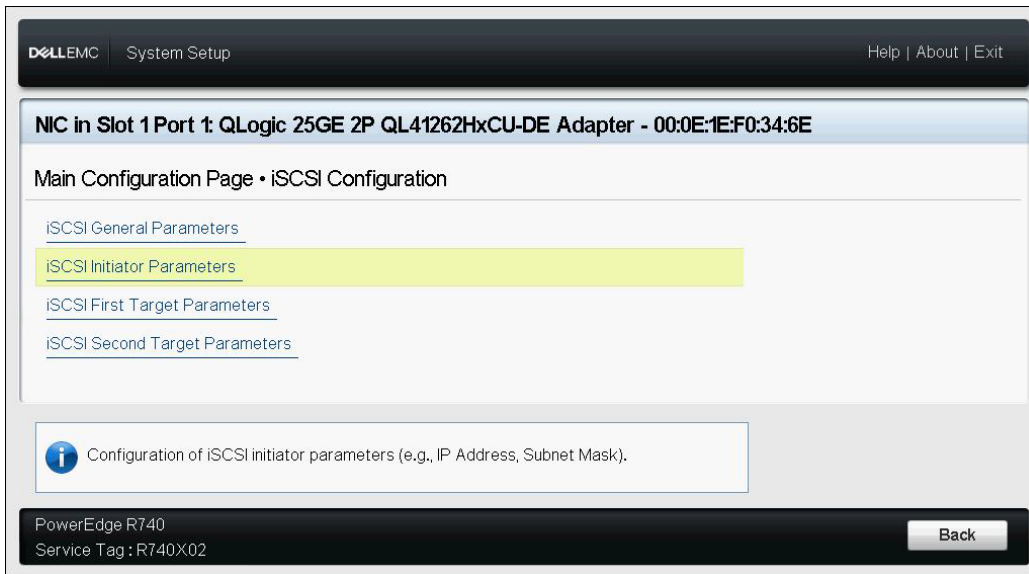

Figure 6-8. System Setup: Selecting iSCSI Initiator Parameters
5. Select **iSCSI Initiator Parameters** (Figure 6-8), and then press ENTER.